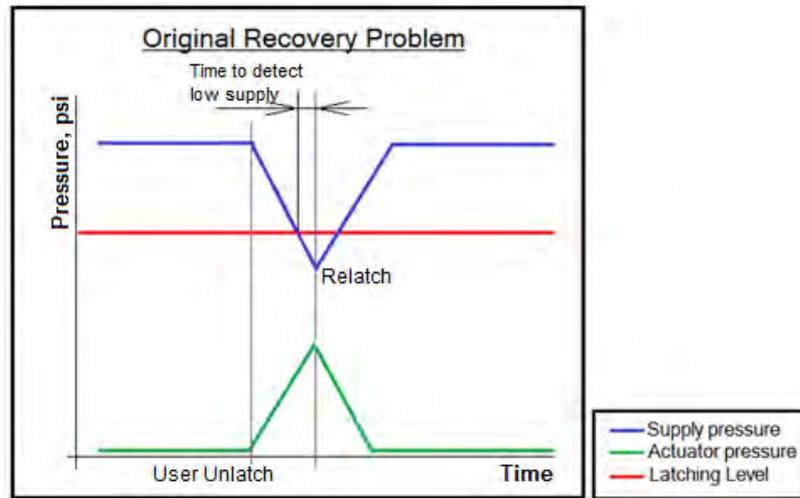

Figure 100 Recovery Time Diagram
*Background*: When a Find Stops is run, as part of its function, it calculates a *Recovery Time* to eliminate the effect of pressure droop when the actuator begins to refill after a close (see Figure 100). This time is set to three times the *Travel Time* from open to 95% closed.